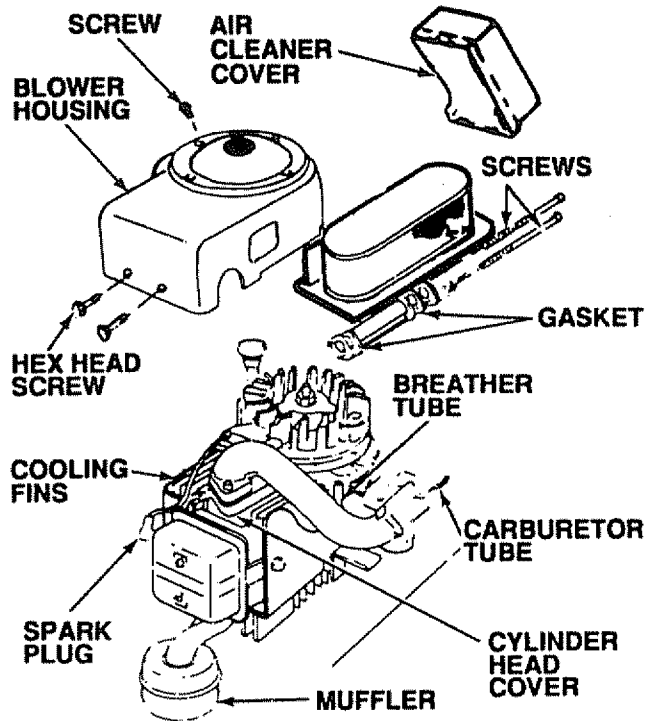

FIGURE 17
- c. Remove 3 screws securing air cleaner body (Fig. 17) and remove. (Cover carburetor to prevent entry of dirt.)
- e. Remove 3 screws from blower housing and lift housing off engine (Fig. 17).
- f. Use compressed air or stiff bristle brush to thoroughly clean engine cooling fins (Fig. 17) and air screen (Fig. 16).
- h. Be certain carburetor tube, breather tube, and gaskets are in place (Fig. 17).